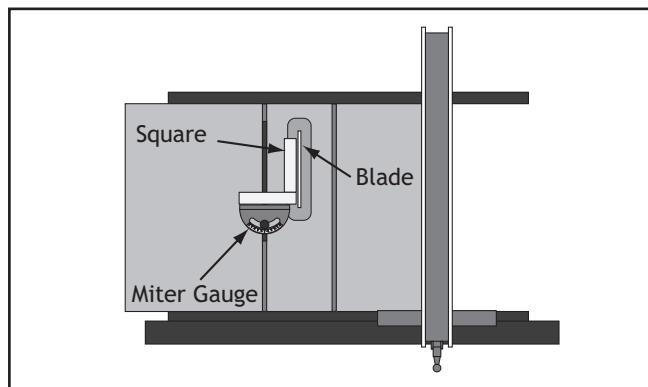

Figure 136. Miter body square to blade.
4. Place square evenly against miter body and blade, as shown in **Figure 136**.